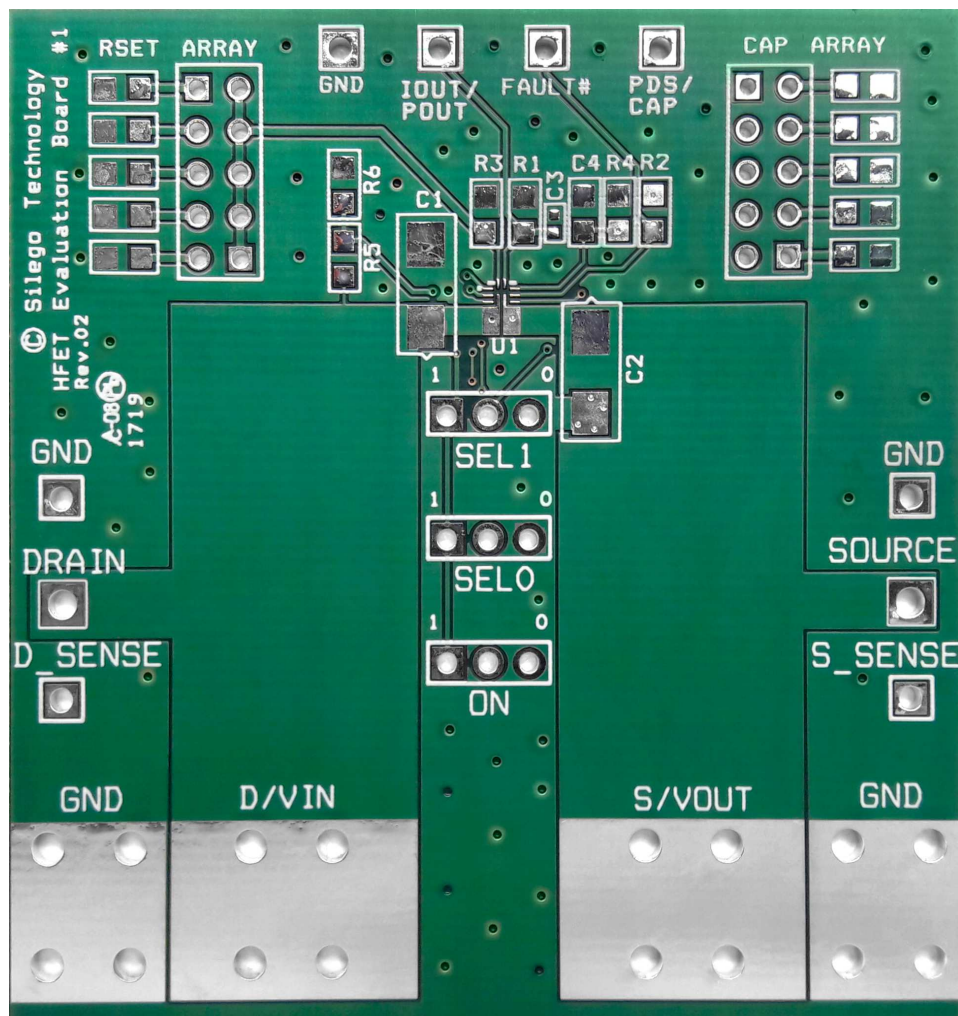

Figure 45. SLG59H1020V Evaluation Board
1. Since the VIN and VOUT pins dissipate most of the heat generated during high-load current operation, it is highly recommended to make power traces as short, direct, and wide as possible. A good practice is to make power traces with absolute minimum widths of 15 mils (0.381 mm) per Ampere. A representative layout, shown in Figure 45, illustrates proper techniques for heat to transfer as efficiently as possible out of the device;
A High Voltage GreenFET Evaluation Board for SLG59H1020V is designed according to the statements above and is illustrated on Figure 45. Please note that evaluation board has D_Sense and S_Sense pads. They cannot carry high currents and dedicated only for RDS_{ON} evaluation.